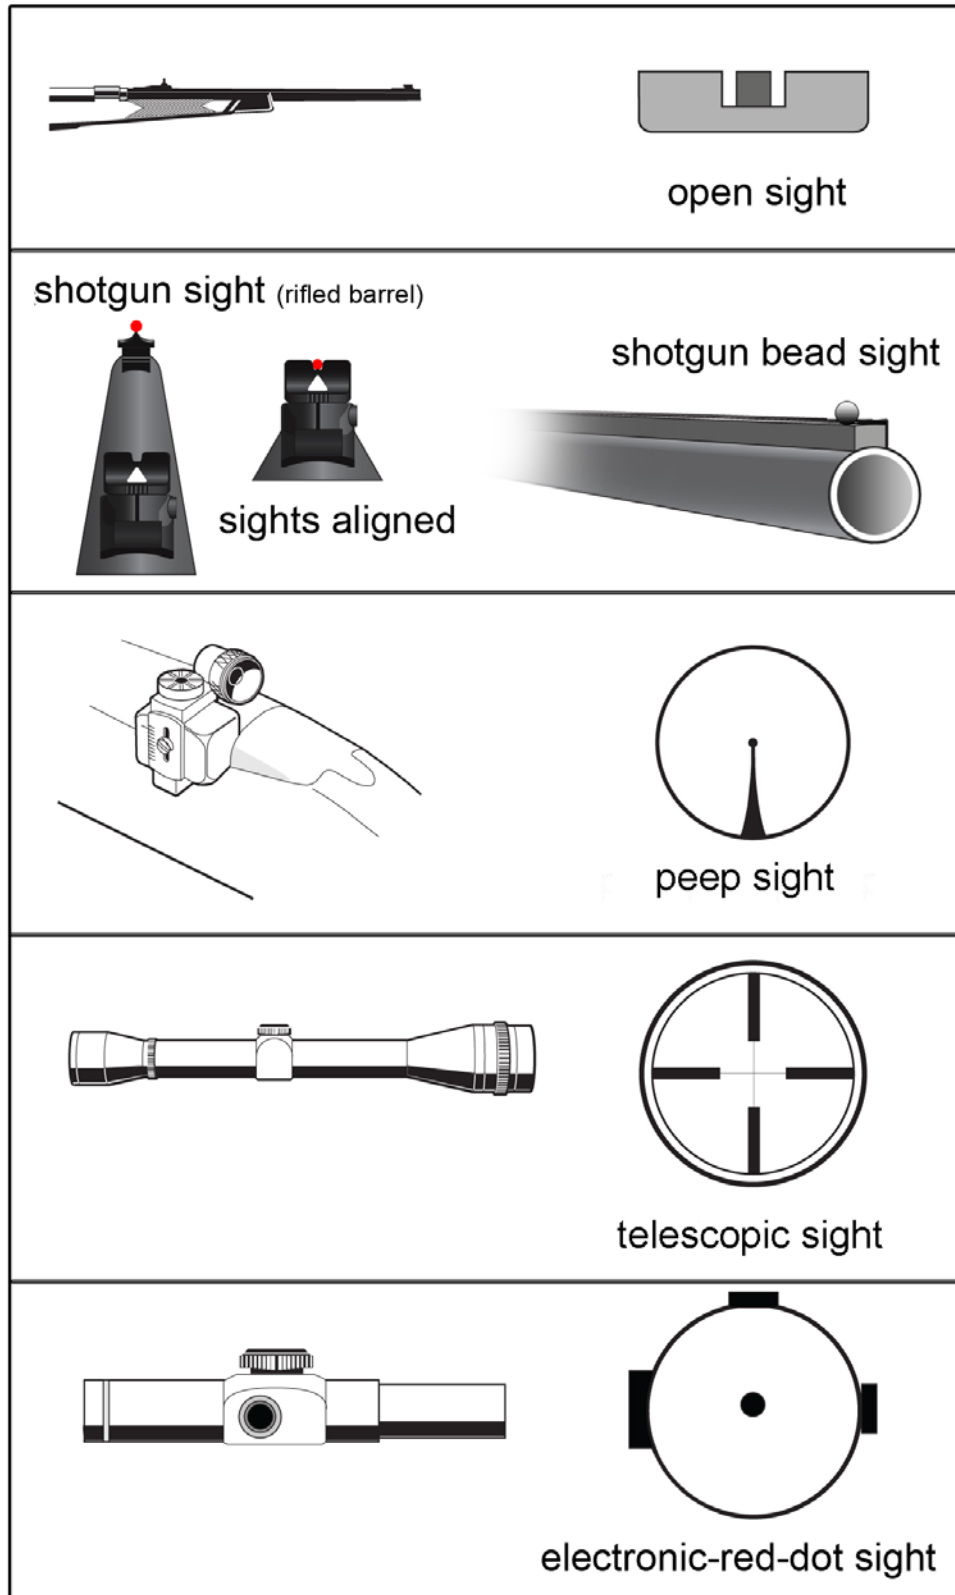

Figure 72. Types of sights
- a. Most sights are mounted on the top of the barrel (Figure 72). Their purpose is to help the shooter aim accurately.